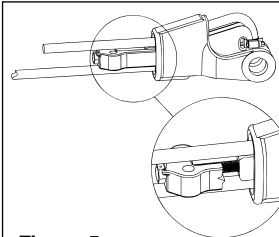

Figure 5
- Pull Wedge and rope into basket until tensioner bolt, with washers properly applied, can engage threads in nose of wedge. (See Figure 5).